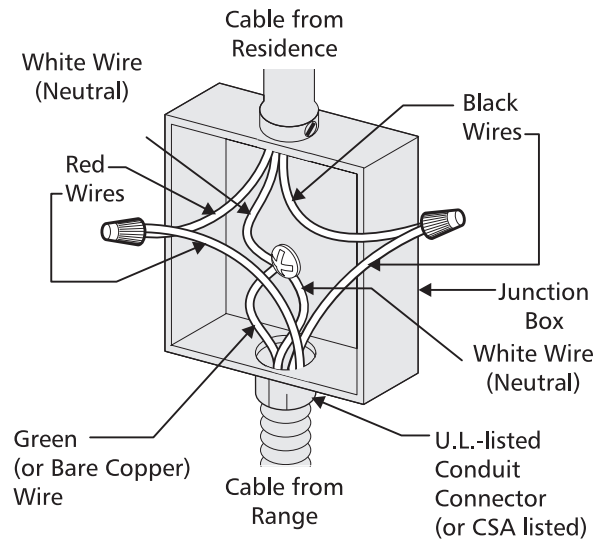

Figure 6
## Where local codes permit connecting the appliance-grounding conductor to the neutral (white) wire (see Figure 6):
2. In the circuit breaker, fuse box or junction box connect the appliance and residence cable wires as shown in figure 6.